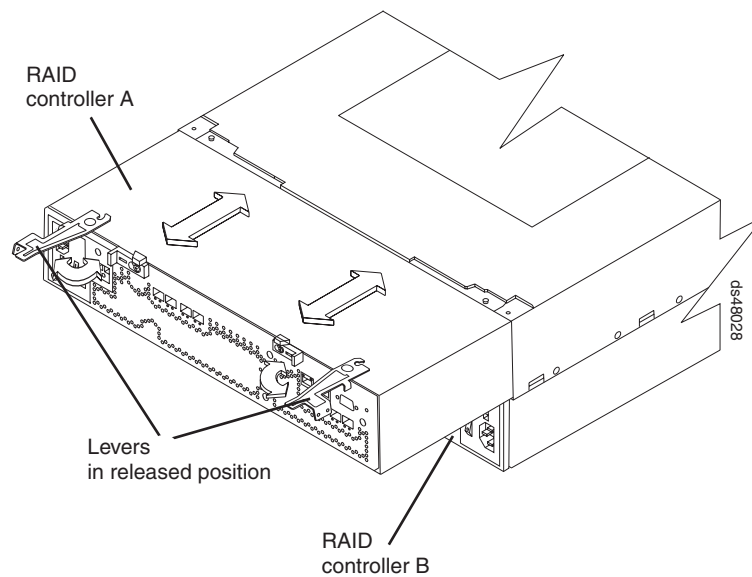

Figure 19. Removing the controllers
- At the back of the DS4800 Storage Subsystem, use an adhesive note to label each of the controllers. Controller A is in the upper slot; controller B is in the lower slot. Figure 19 shows the locations of the controllers and controller levers.
- Remove the controllers. Figure 19 shows the controller locations and the controller levers.